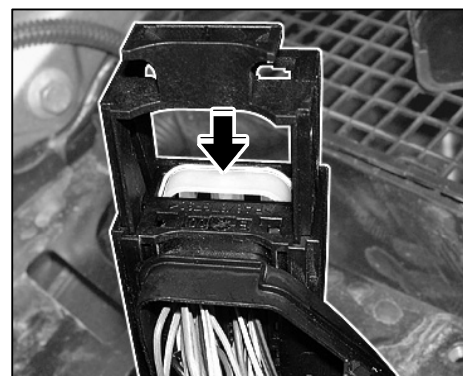

Figure 26
- 4.4.9 Insert secondary lock ⇒ *Figure 26 -arrow-* and close it.